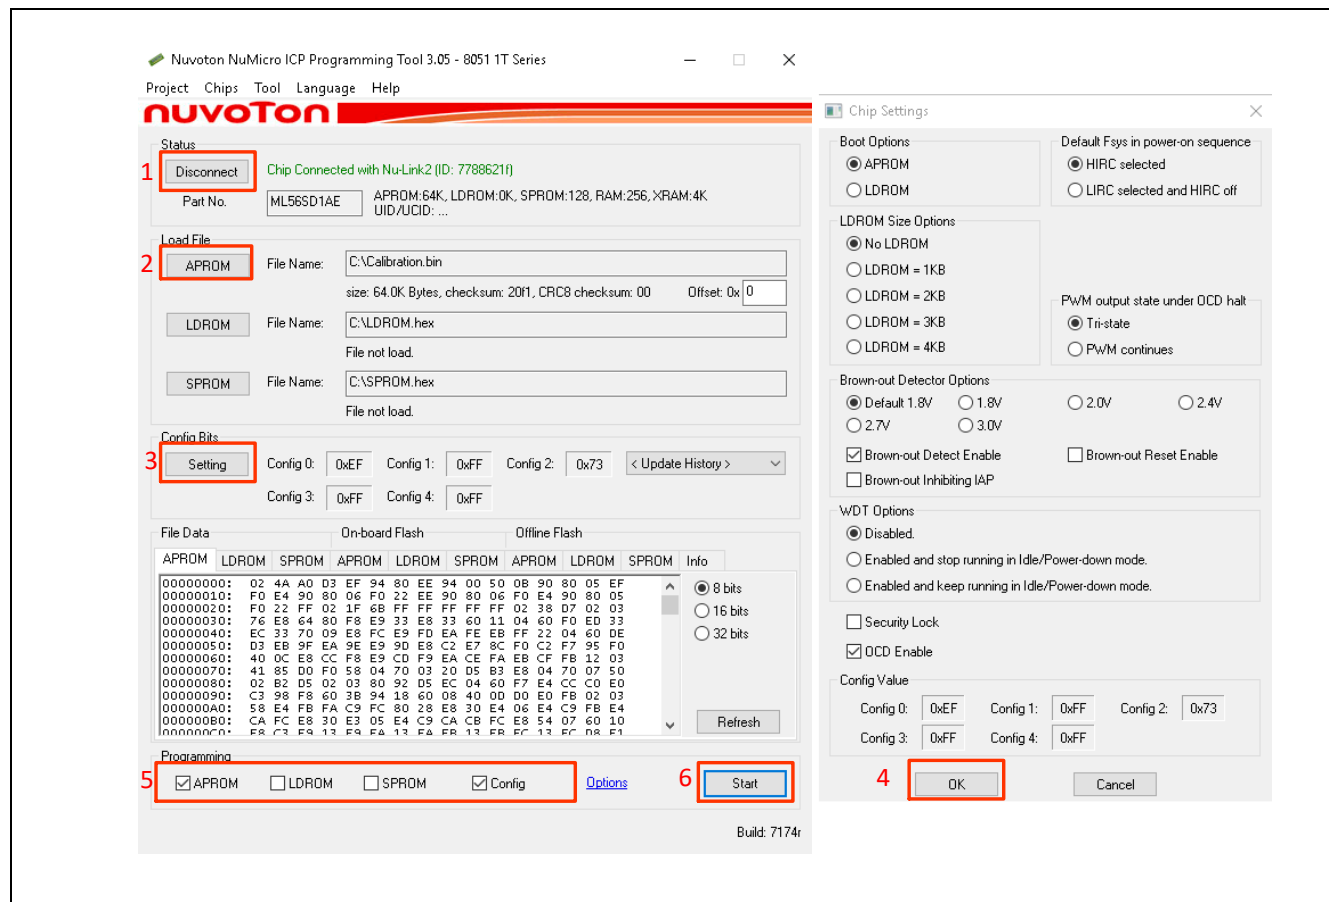

Figure 1-5 Programming Calibration.bin File
1. Download the *calibration.bin* file using ICP programming tool as shown in Figure 1-5. The binary file is stored in TK-Utility folder.